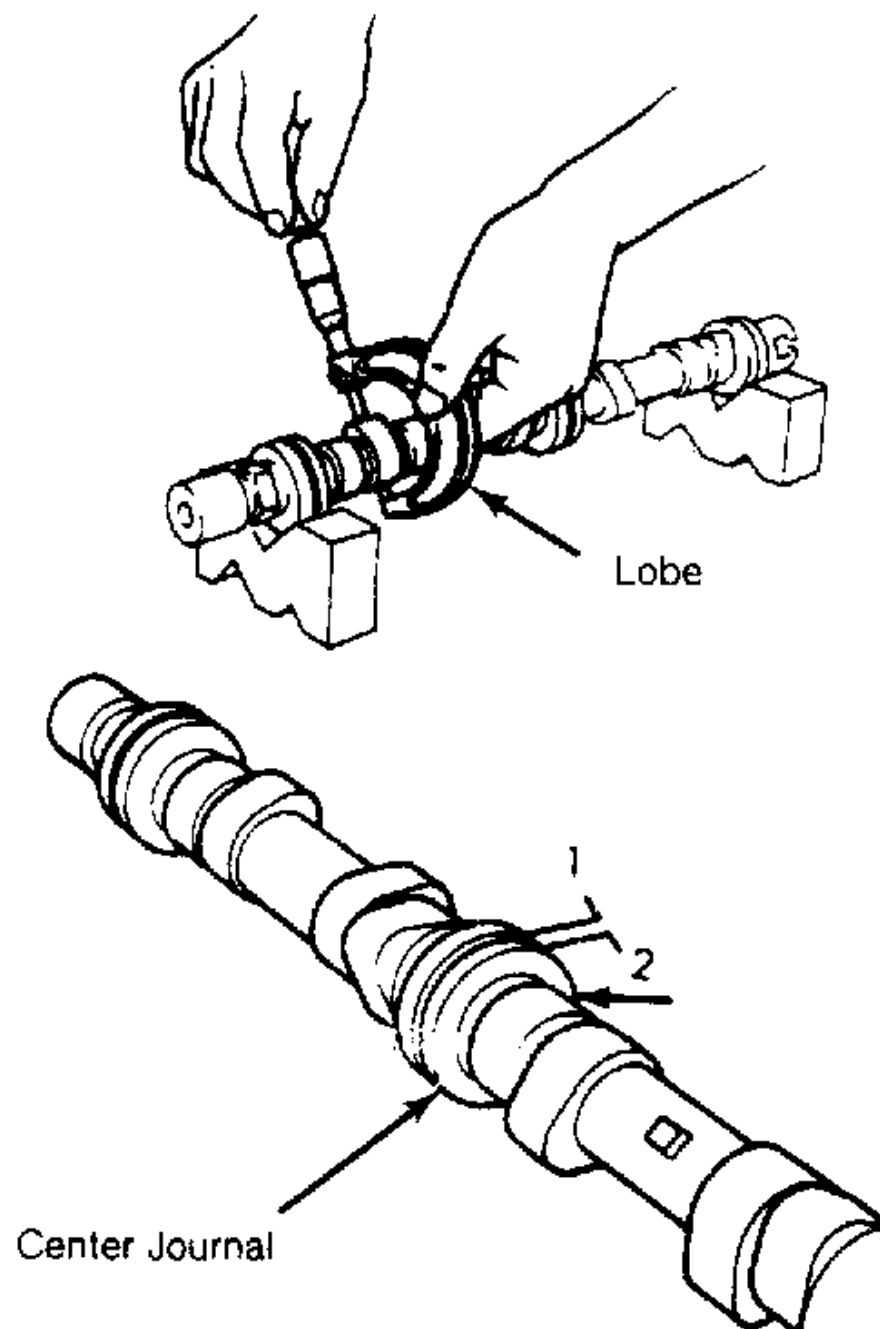

Fig. 7: Measuring Camshaft (1.3L Shown; 1.6L Similar)
2. Measure camshaft bearing journals and cylinder head bores. See Fig. 6 and Fig. 7 . Subtract camshaft bearing journal O.D. from cylinder head bore I.D. to obtain oil clearance. If clearance is not within specification, replace head and/or camshaft. See, in this article, CAMSHAFT SPECIFICATIONS table under ENGINE SPECIFICATIONS tables.
- 2. Measure camshaft bearing journals and cylinder head bores (with bearing caps in place and torqued to specification). See Fig. 7 . Subtract camshaft bearing journal O.D. from cylinder head bore I.D. to obtain oil clearance. If clearance is not within specification, replace head and/or camshaft. See CAMSHAFT SPECIFICATIONS table under ENGINE SPECIFICATIONS at end of article.